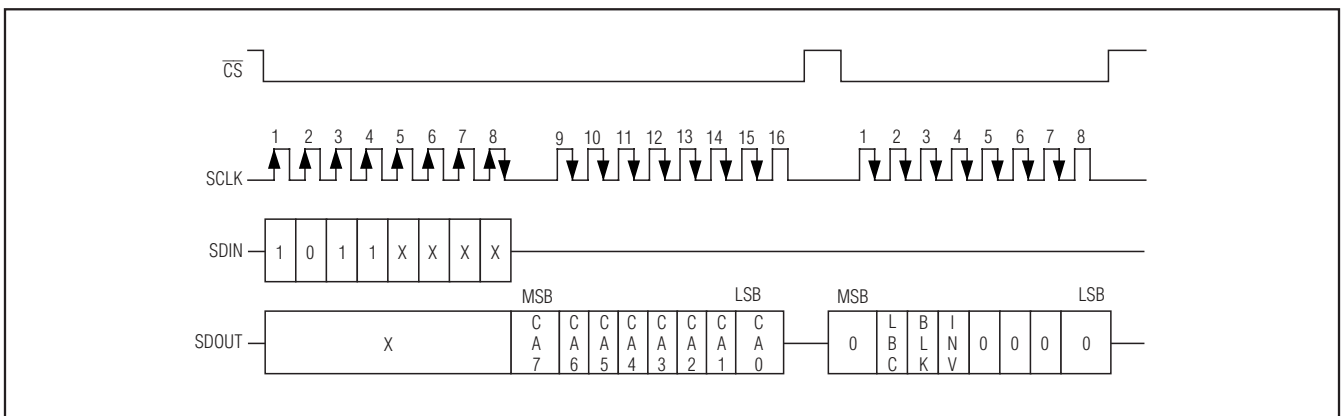

Figure 20. Reading Character Address and Character Attribute Bytes in 16-Bit Operation Mode
- 2) Reading character data from the display memory, when in 16-bit operation mode, is a 24-bit operation (8-bit address plus 16-bit data). See Figure 20.